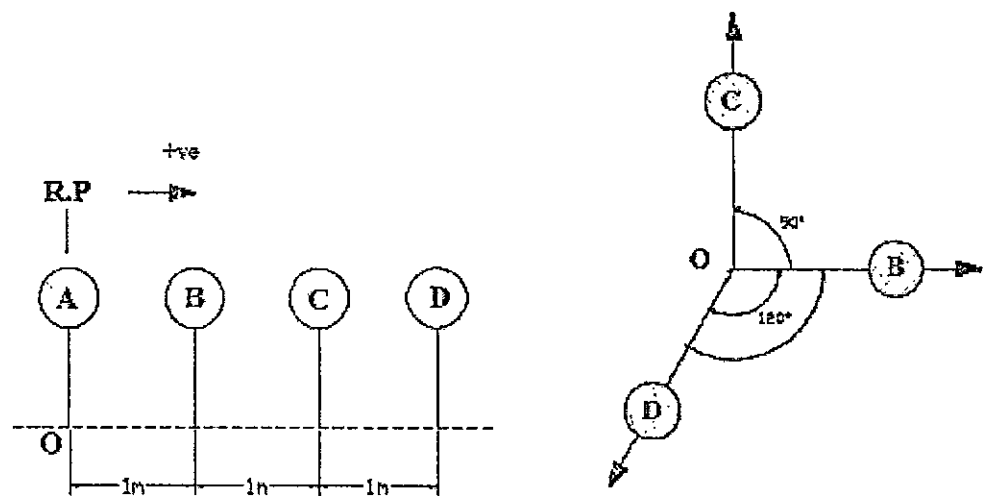

Figure 3(a) / Rajah 3(a)
- (a) A rotating shaft has four masses A, B, C and D with radius of 100 cm. The mass B is 7kg with an angle of $\angle BOC = 90^\circ$ and $\angle BOD = 120^\circ$ as shown in Figure 3(a). Calculate: